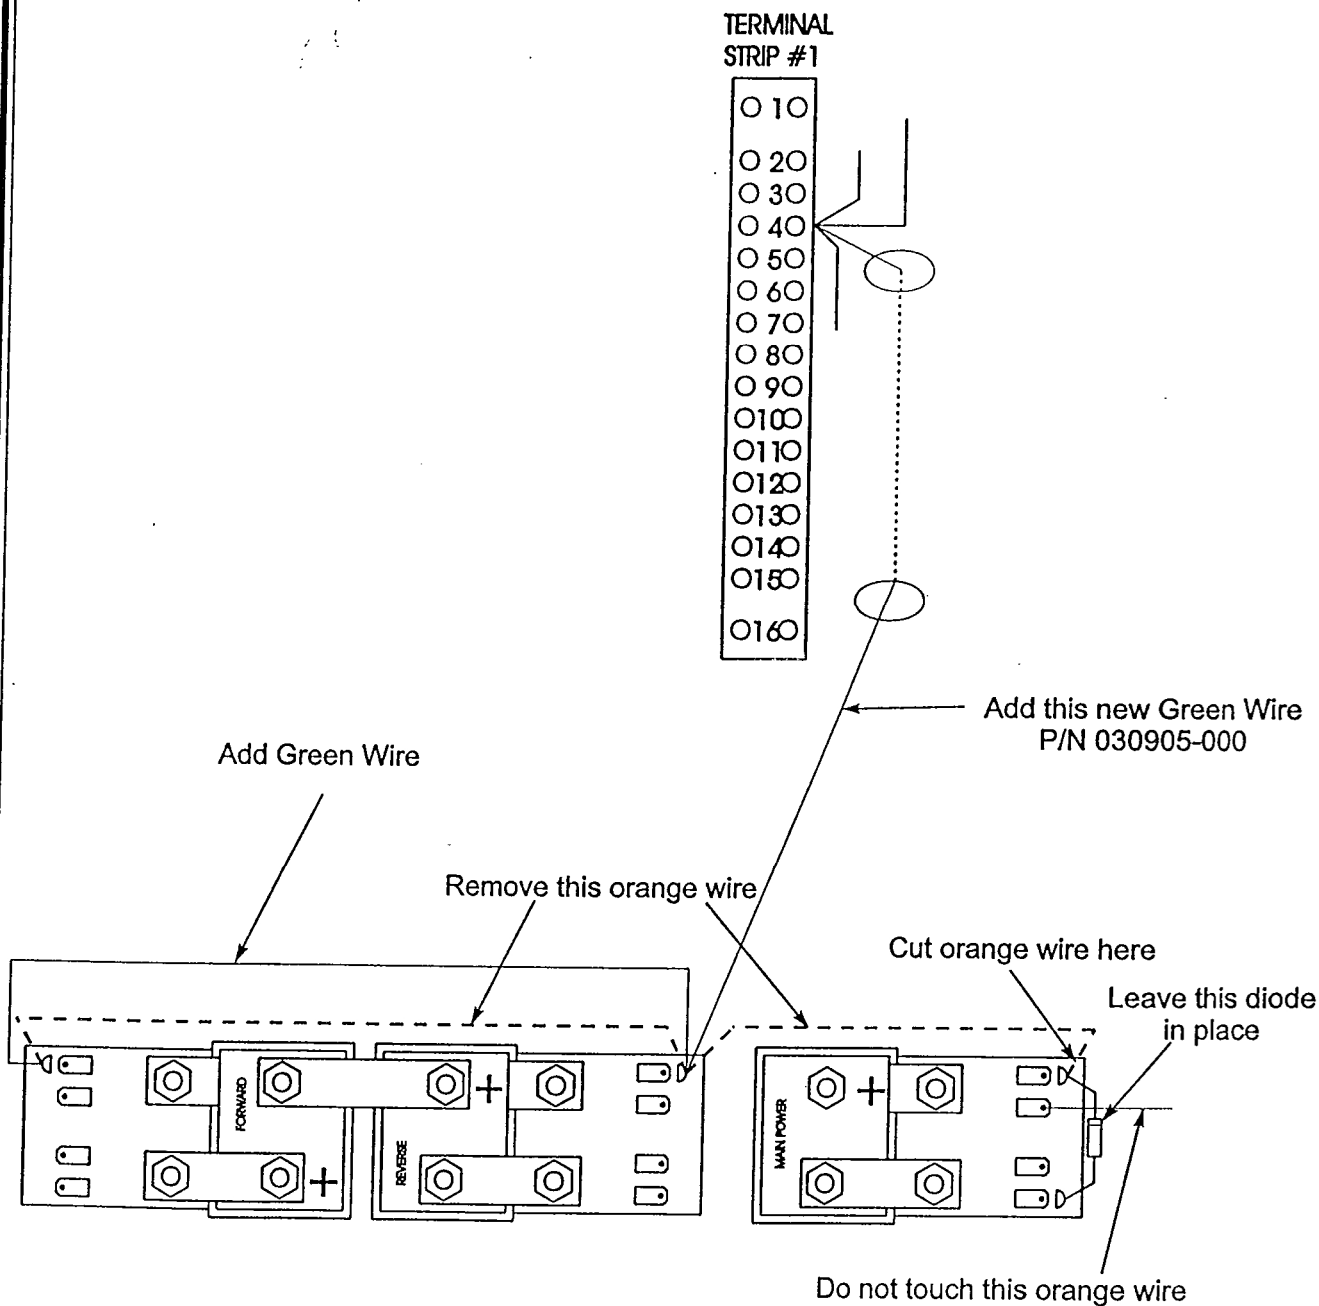

Figure 1
PROCEDURE: Read all instructions thoroughly and refer to Figure 1 before starting.
4. Locate orange wire attached to contactors (Figure 1).
7. Install green wire on to forward and reverse contactors (Figure 1).